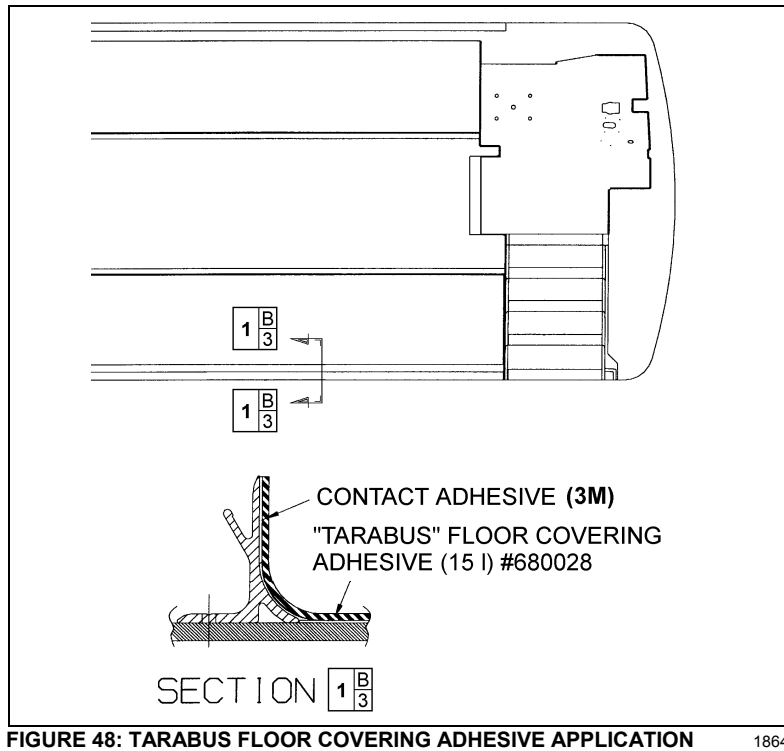

FIGURE 48: TARABUS FLOOR COVERING ADHESIVE APPLICATION
8. Apply Sikaflex 221 gray sealant (680532) alongside passenger seat fixing tracks (refer to figure 48).